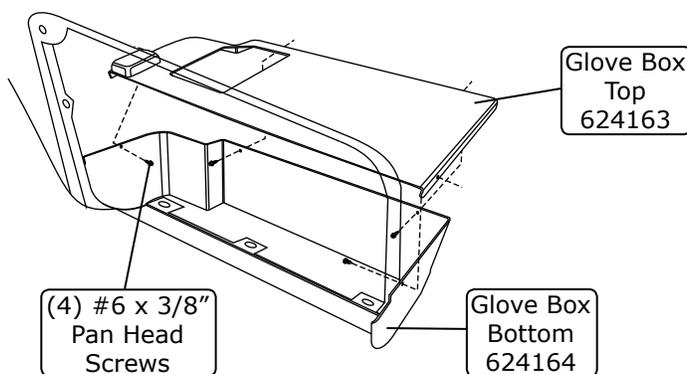

Figure 17
1. Insert the bottom half of the new glove box into the glove box opening, and position it into place (See Figure 17, below).
2. Attach the top half of the glove box to the bottom half using (4) #6 x 3/8" pan head screws (See Figure 17, below).